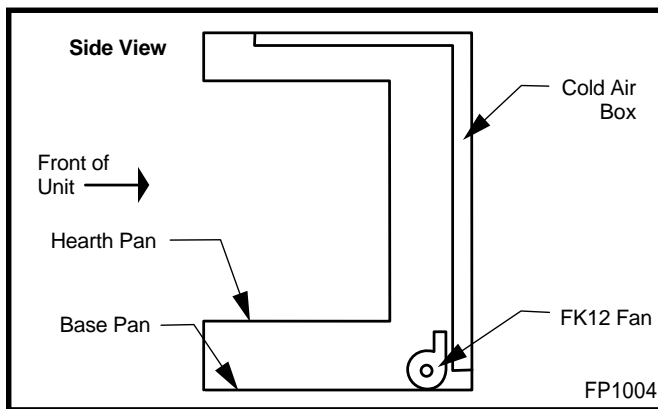

Fig. 49 FK-12 Fan placement.
2. Install FK12 fan in back of unit between hearth supports (Fig. 49).